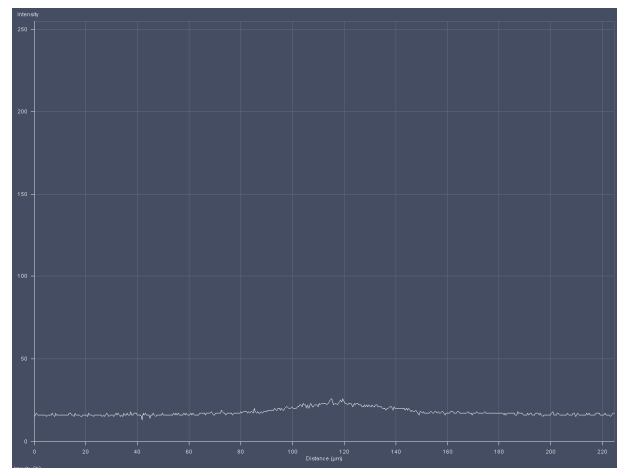

Fig. 18 Selection of Line Scan diagram
- The diagram (Fig. 18) shows a line with a bump, which is the result of reflected light on the optical axis not focused yet on the lower glass surface. You might adjust the line to lower or higher values by altering the gain or laser power.